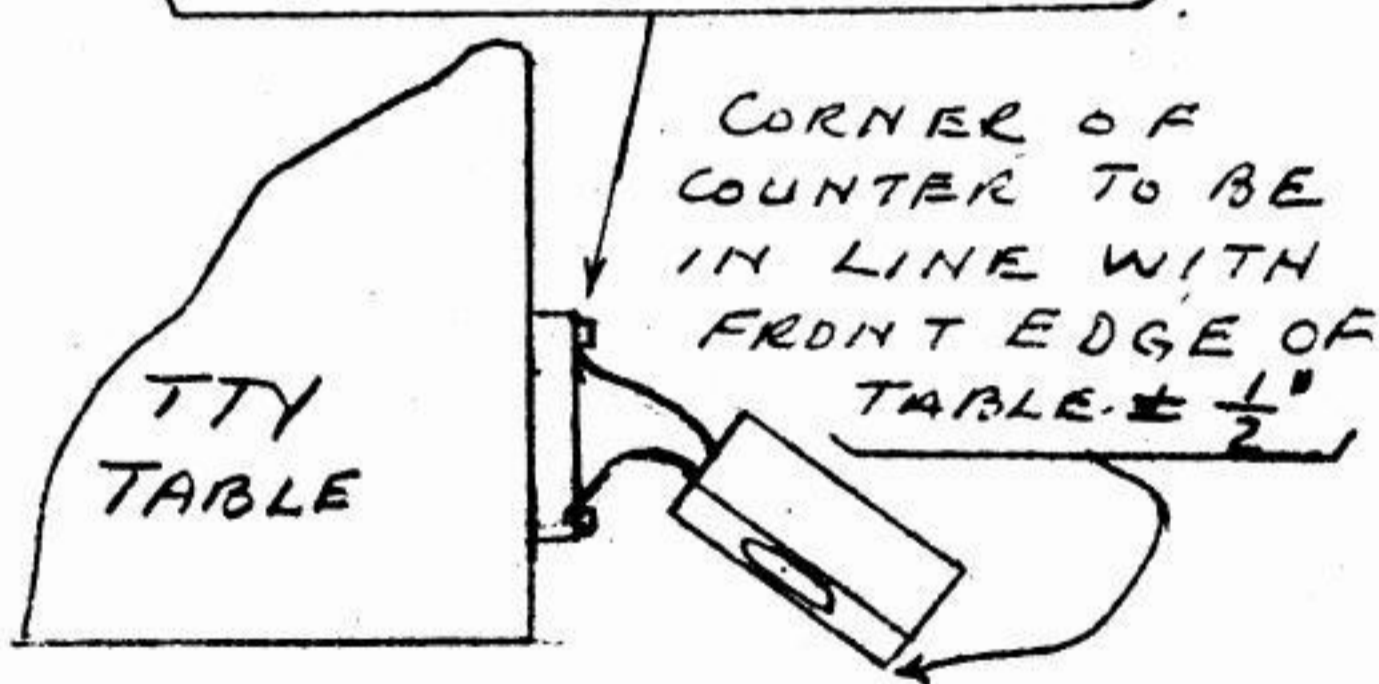

FIGURE 8
3.01 If the TP92996 impulse counter is received wired, check that the wiring agrees with that shown in Figure 8, otherwise, wire it in accordance with this figure.
4.08 Mount the impulse counter on the right edge of the table top near the front as pictured in Figure 8.